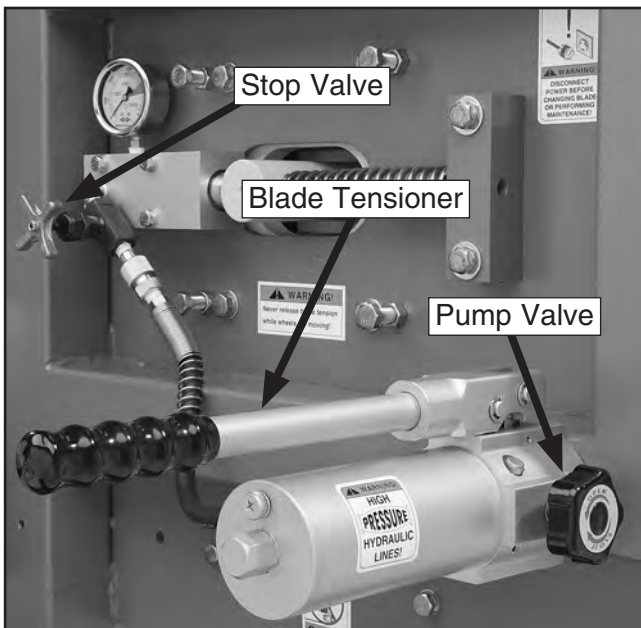

Figure 16. Blade tensioner controls.
6. Loosen the stop valve (**Figure 16**) and tighten the pump valve.
7. Tighten the blade with the blade tensioner shown in **Figure 16**. Use the colored area on the tension gauge as a proper tension guide for your specific blade material.